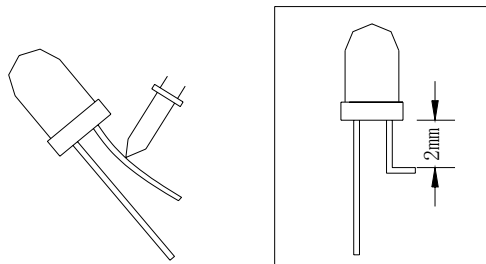

Fig.7
1) The lead should be bent at a point located at least 2mm away from the package. Bending should be performed with base fixed means of a jig or pliers (Fig.7)